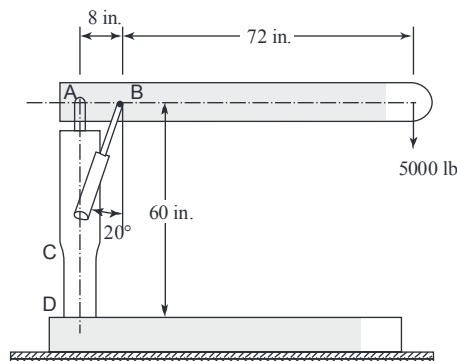

Figure P5-65
- 5.65** A small hydraulic floor crane as shown in Figure P5-65 carries a 5000 lb load. Determine the size of the beam and column needed. Select either a standard box section or a wide-flange section. Assume a rigid connection between the beam and column. The column is rigidly connected to the floor. The allowable bending stress in the beam is  $0.60S_y$ . The allowable deflection is  $\frac{1}{360}$  of the beam length. Check the column for buckling.